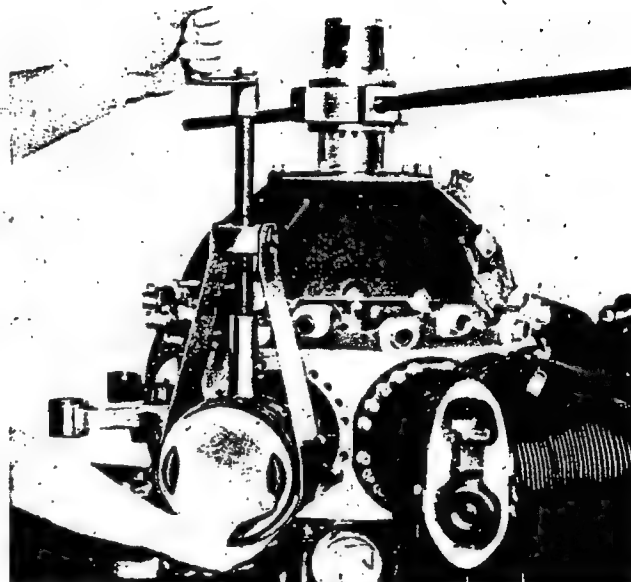

Figure 49—Removing Piston Pin
(2) Push the piston pin out of the piston with the fingers. If the pin is tight or stuck, it may be removed with Tool No. 83243. Encircle the piston with the felt-lined stirrup of the tool and turn down the spindle which forces out the piston pin. Cover the cylinder pad on the crankcase to prevent the entrance of any foreign material. Figure 49 shows application of piston pin removing tool.